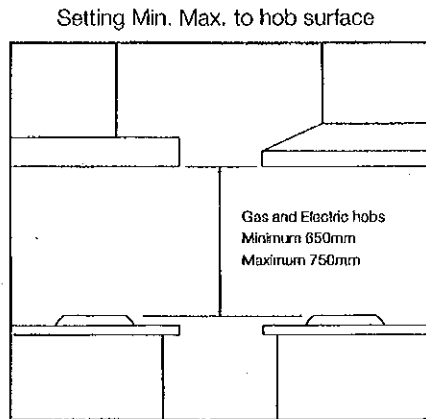

Fig. 1
- When installing the cooker hood, make sure you respect the following minimum and maximum distances from the cooker hood base to the hob surface. (Fig. 1)